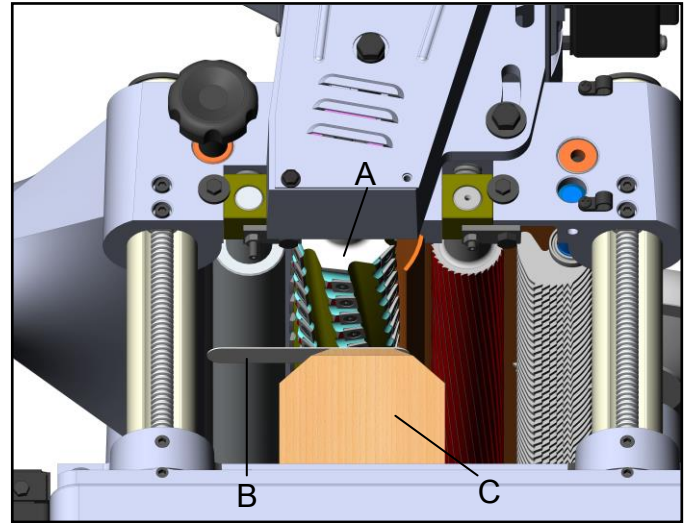

Fig. 20
3. Place the gauge block on the table directly underneath the cutterhead as Fig. 20. Using a 0.5mm feeler gauge (B) , placed on top of the gauge Block (C), raise or lower the head until the knife tip just touches the feeler gauge when the knife is at its lowest point. Do not move the head any further until the outfeed roller is adjusted.